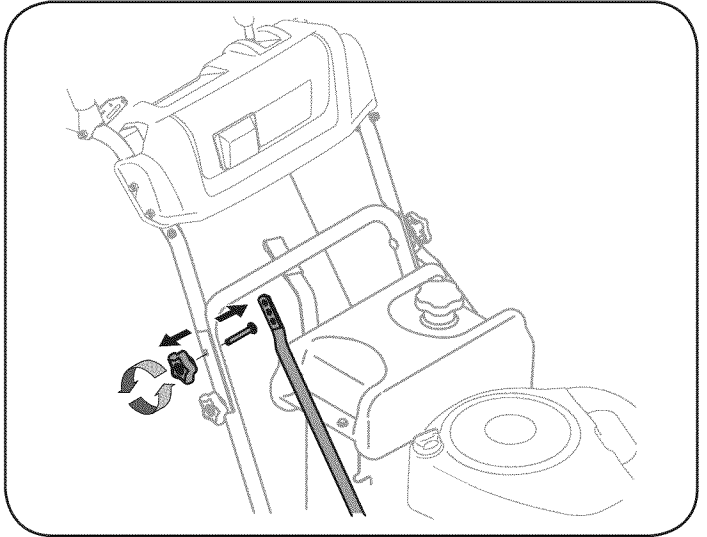

Figure 24
1. Remove the upper star knob and carriage screw on the right side of the handle and the left side of the handle. See Figure 24.